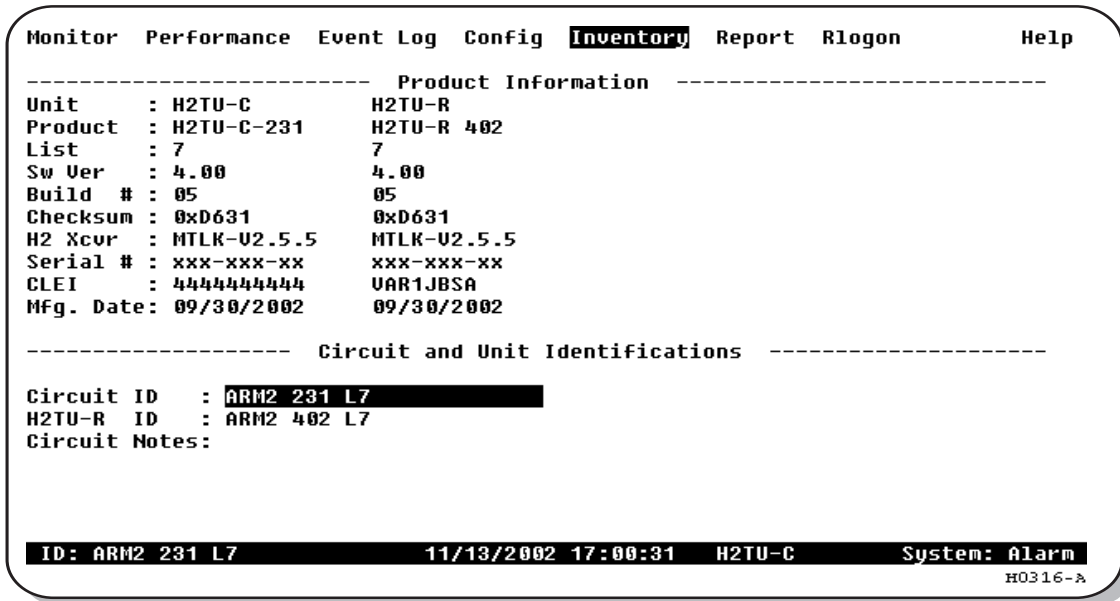

Figure 5. Inventory Screen
- 2 Type the Circuit ID number in the field indicated (see Figure 5), then press **ENTER**.